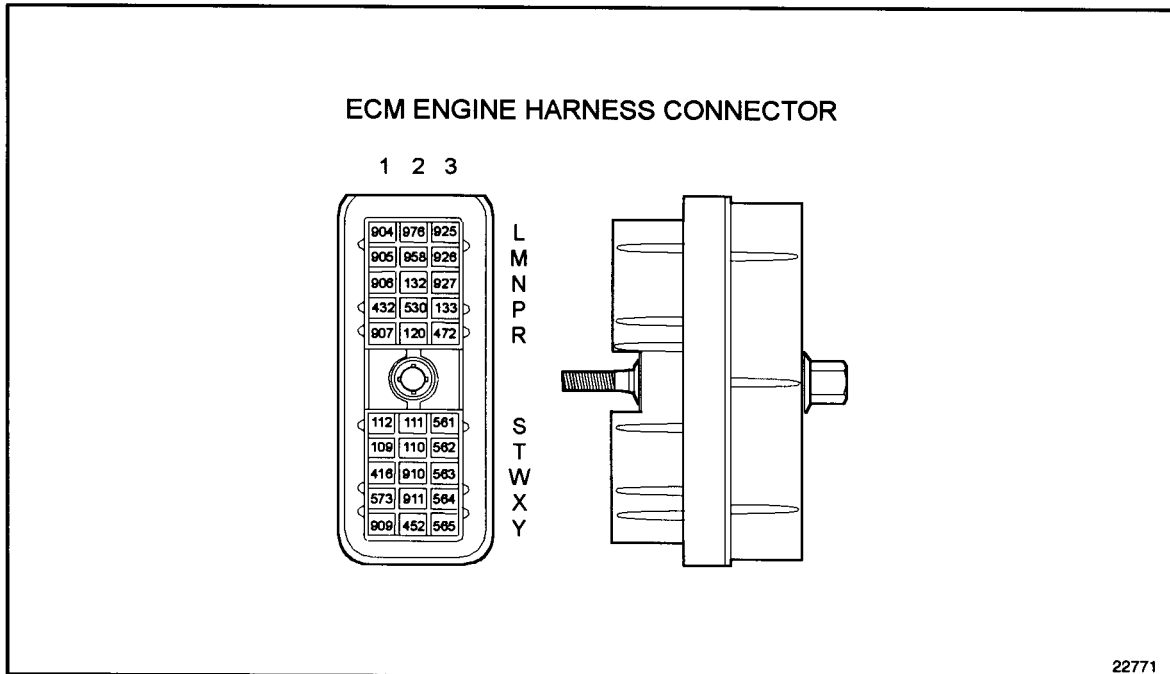

Figure 24-4 ECM Engine Harness Connector
1. Check terminals at the ECM harness connector (both ECM and harness side) for bent, corroded, and unseated pins or sockets. See Figure 24-4.